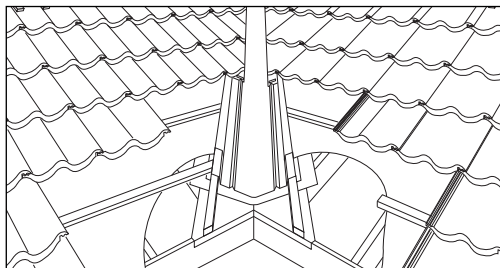

Fig 20 – Bedded valley with Marley Eternit GRP valley trough
- 4 Firmly locate batten ends onto valley boards with ends supported on lip of GRP Valley Trough (Fig 20).